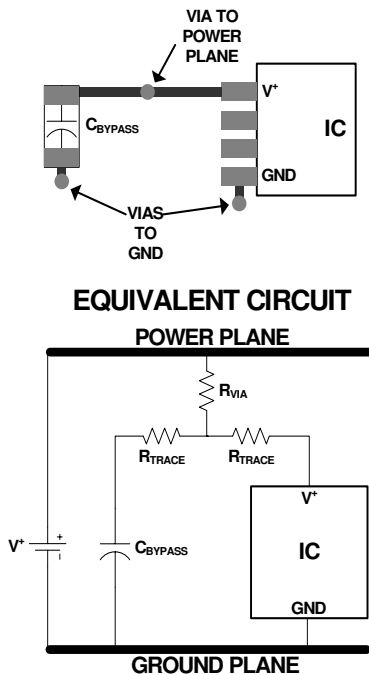
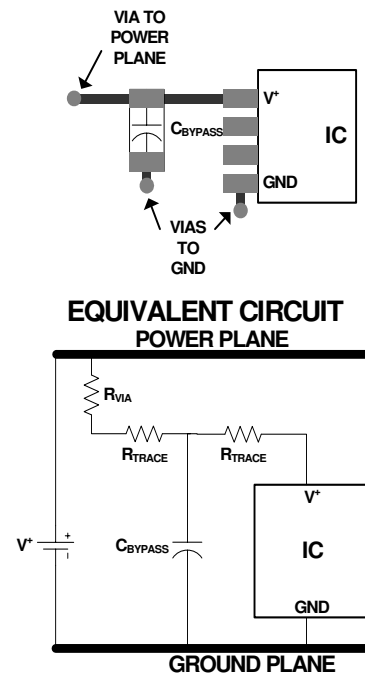

FIGURE 12. SUB-OPTIMAL BYPASS CAPACITOR LAYOUT
FIGURE 13. OPTIMAL (“T”) BYPASS CAPACITOR LAYOUT
- Ideally each supply should be bypassed to ground with a 0.1  $\mu\text{F}$  capacitor. Minimize trace length and vias to minimize inductance and maximize noise rejection. Figure 12 demonstrates a common but non-ideal PCB layout and its equivalent circuit. The additional trace resistance between the bypass capacitor and the power supply/IC reduces its effectiveness. Figure 13 demonstrates a better layout. In this case there is still series trace resistance (it is impossible to completely eliminate it), but now it is being put to good use, as part of a “T” filter, attenuating supply noise before it gets to the IC, and reducing the amount of IC-generated noise that gets
injected into the supply. Follow the good supply bypassing rules shown in Figure 13 to the extent possible.